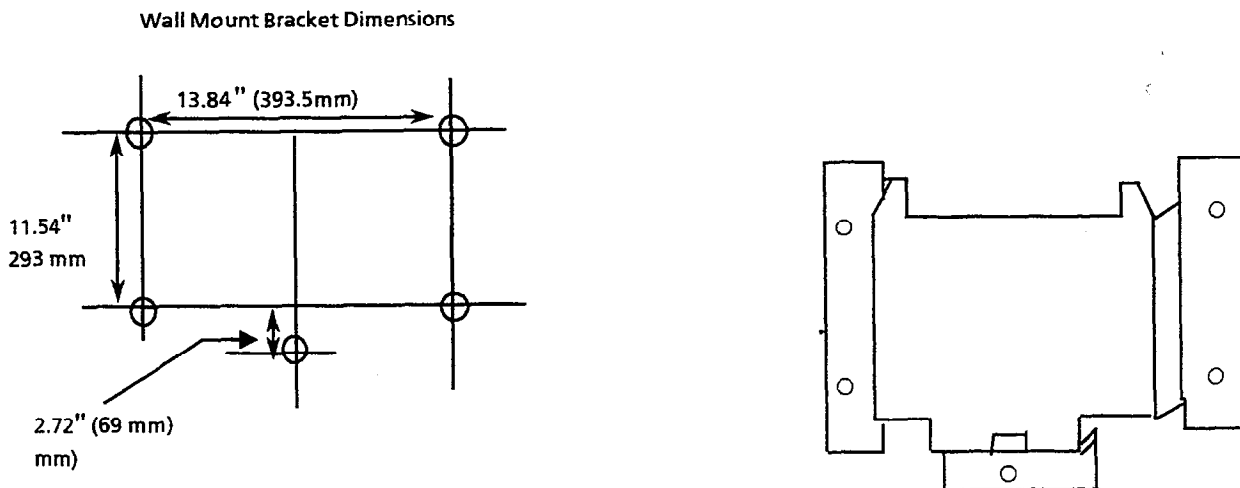

Figure 2-8 Attaching the Wall Mount Bracket of the Level II Basic KSU to the Wall
1. Using four screws (locally provided), attach the wall mount bracket to the wall. Refer to Figure 2-8 - Attaching the Wall Mount Bracket of the KSU to the Wall.